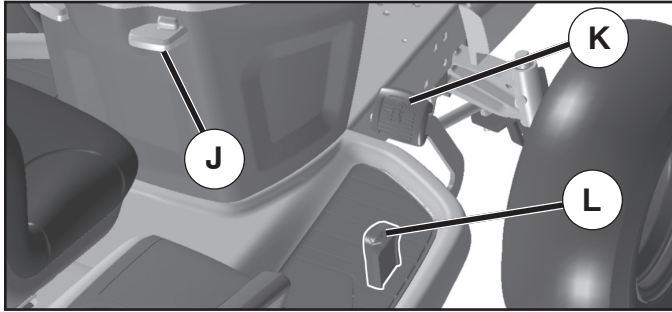

FIG. 7
(See Fig. 7)
TO USE CRUISE CONTROL (J) (See Fig. 7)